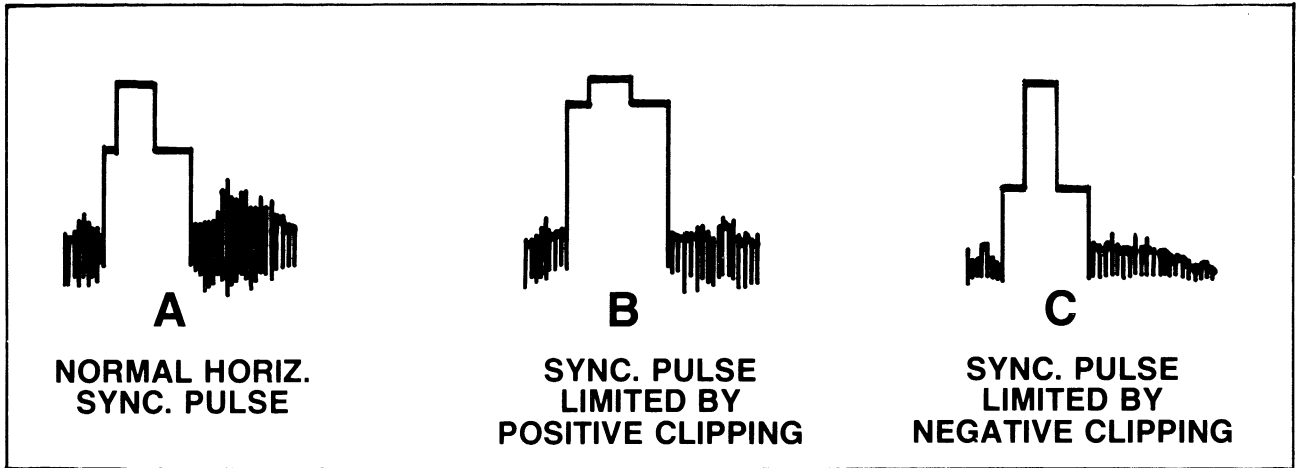

Figure 6-7. Sync. Pulse Suppression
- k. Figure 6-7 shows variations possible in the shape of the sync pulse when signal overload (or a biasing problem) prevails. Normally, the sync pulse exceeds pedestal height by about 50 percent as indicated in Figure 6-7A. If limiting occurs in the positive direction, clipping (sometimes referred to as "compression") occurs as in Figure 6-7B. If limiting (or overload) occurs, in the opposite polarity, the sync pulse proportions are changed as shown in Figure 6-7C.